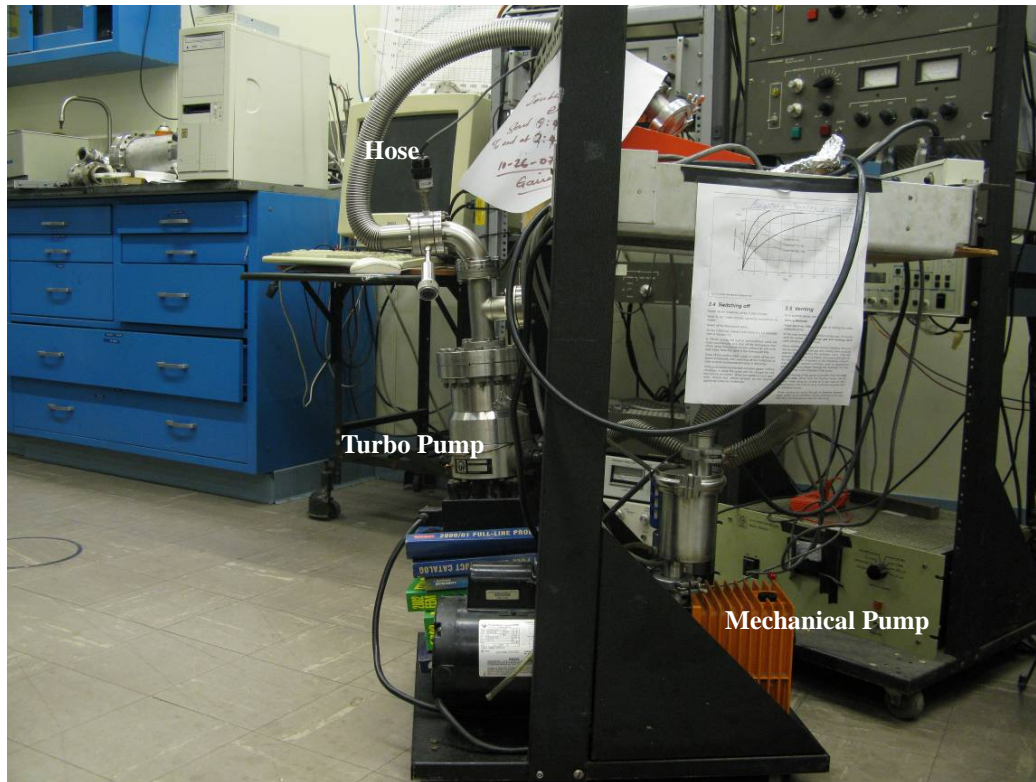
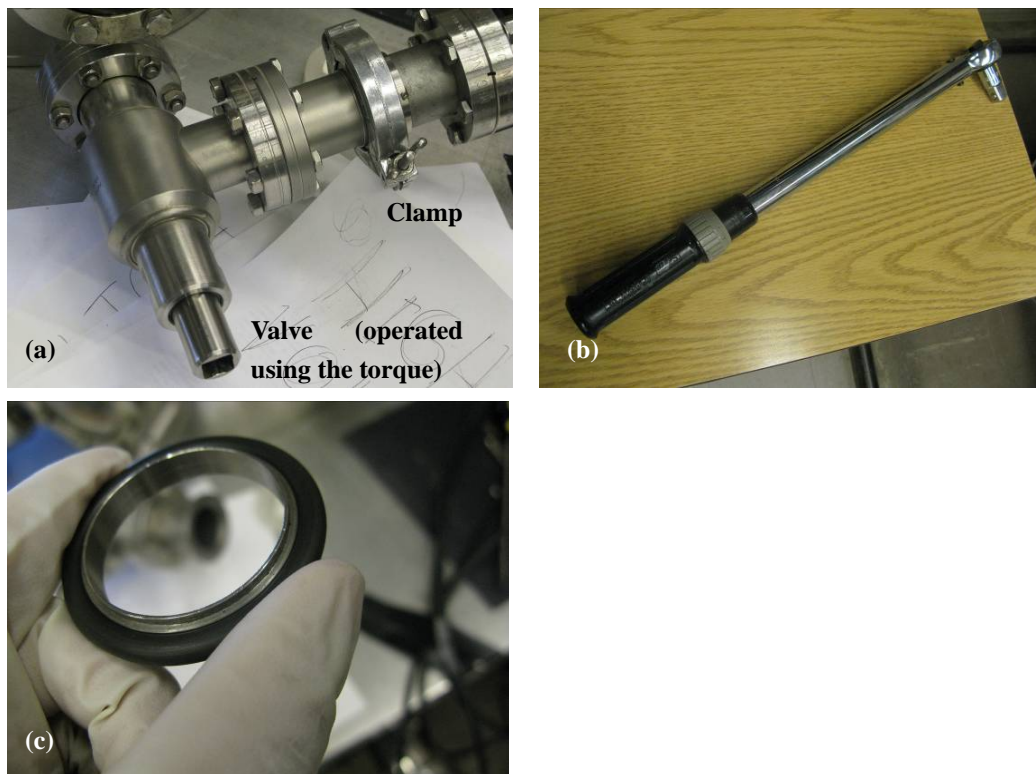

Figure 2.2 The rack holding the mechanical pump and the turbo pump.
Figure 2.3 (a) The roughing valve on the vacuum chamber, (b) the torque and (c) the O-ring.
5. Connect the hose of the mechanical/turbo pumps (on the pump rack (Fig. 2.2)) to the valve on the vacuum chamber (d in Fig. 2.1) using an O-ring (Fig. 2.3(c)) between them. Tighten the connection using a clamp (Fig. 2.3(a)).
8. Open the valve (Fig. 2.3(a)) using the torque (Fig. 2.3(b)).
14. Close the valve (d in Fig. 2.3(a)) on the vacuum chamber using the torque (Fig. 2.3(b)).
4. Slowly open the right-angle valve using the torque (Fig. 2.3(b)). After about 10 minutes, fully open it.